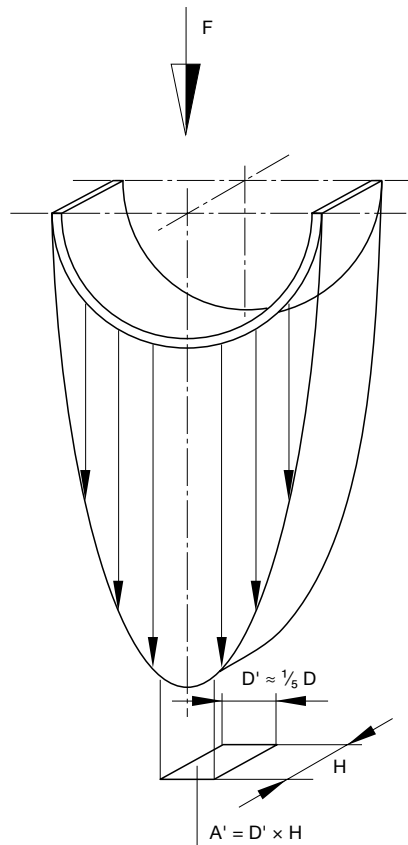

Fig. 6.1 Pressure distribution on bearing area
These lateral forces (F) lead to a pressure distribution as shown in fig. 6.1. In practice, calculation based on the projected surface has proved to be a simple and more useful method. This means that the load carrying area (A) can be calculated from the length (H) multiplied by the diameter (D) (see fig. 6.2). The surface obtained is about 5 times larger than the assumed bearing area of fig. 6.1, so that lower specific loads must be reckoned with. In order to obtain the same values for lateral forces "F", the specific load must be only $\frac{1}{5}$ of the max. force shown in fig. 6.1. The indicated permissible specific forces ($F_{perm.}$) take this into account, and the admissible specific pressure mentioned relates to the projected area as shown in fig. 6.2.